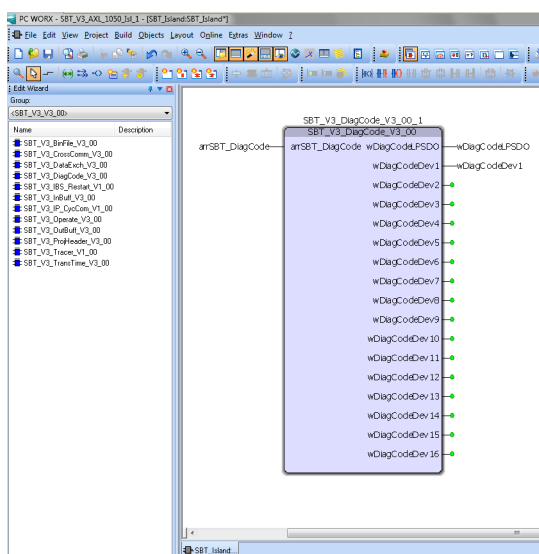

Figure 3-40 “SBT_V3_DiagCode_V3_00” function block
- Connect the function block as shown in Figure 3-40.